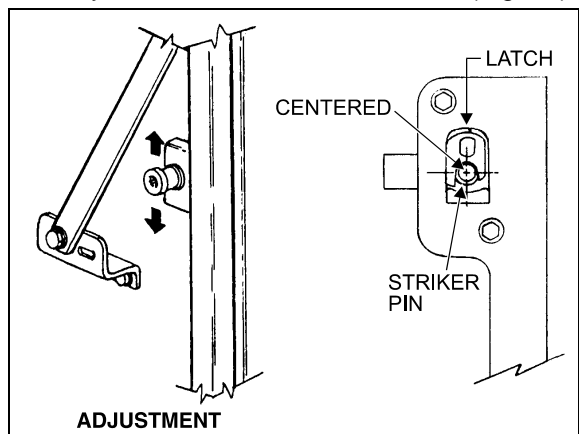

FIGURE 57: BAGGAGE COMPARTMENT DOOR 18068
5. Install both striker pins, bring the door close to them, and adjust the height of pins so they are well centered with latches (Fig. 57).